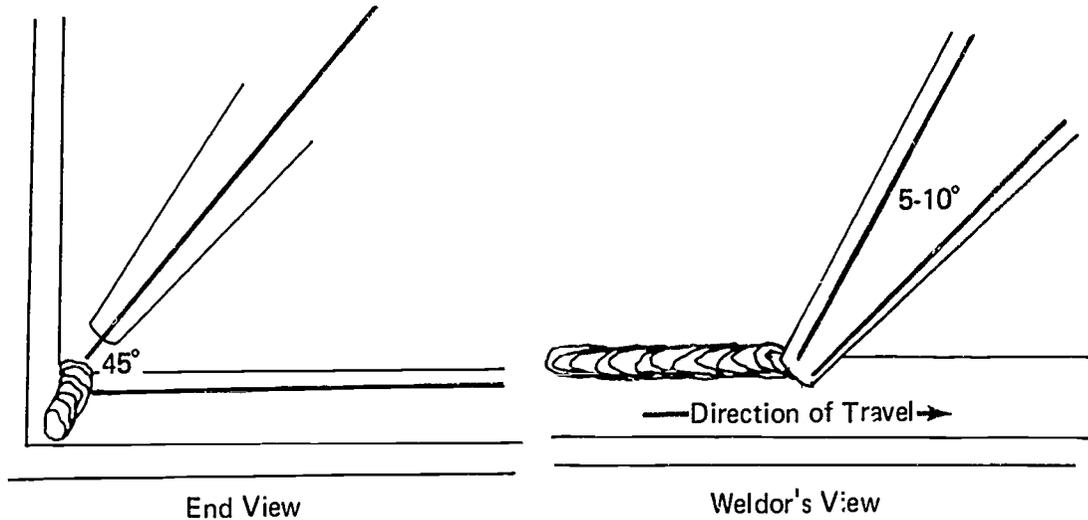

FIGURE 3
- G. Position gun nozzle at 45° from bottom plate and angled 5° - 10° in direction of travel (Figure 3)